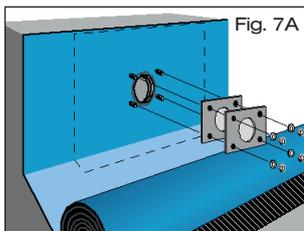

Fig. 7A
- 1.8 With the DN 50 version, place a compression seal over the vapour barrier sheet, and clamp with loose flange and included screws (Fig. 7A). Tighten the enclosed screws using an SW 17 open-ended or ring spanner, working criss-cross. Tightening torque: 20 Nm (bituminous vapour barrier sheet) or 30 Nm (plastic vapour barrier sheet).